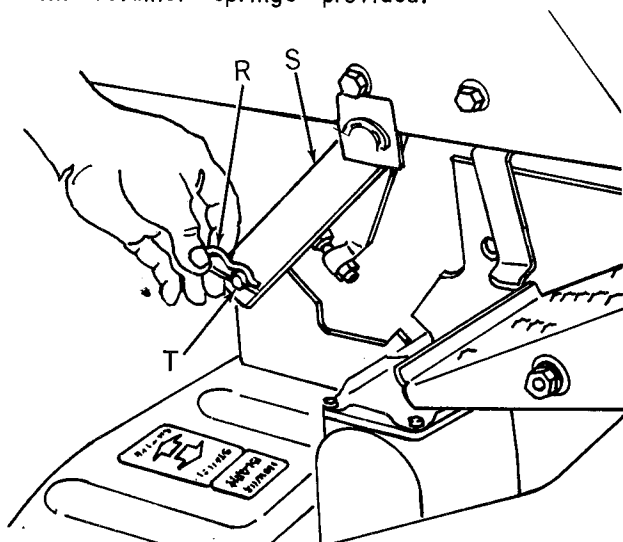

FIG. 15
8. Refer to Fig. 15. Move lift lever to forward position. Remove retainer springs (R) from end of pivot shaft (T). Slip lower ends of rear pivot links (S) on end of pivot shaft (T), and secure with retainer springs (R), one on each side of tractor.